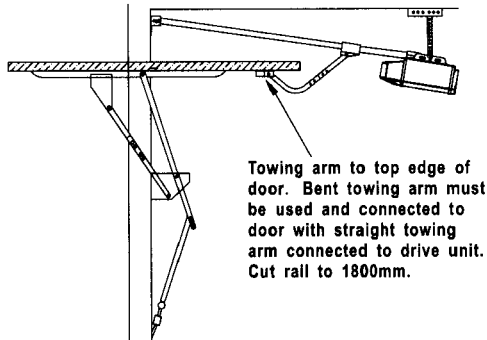
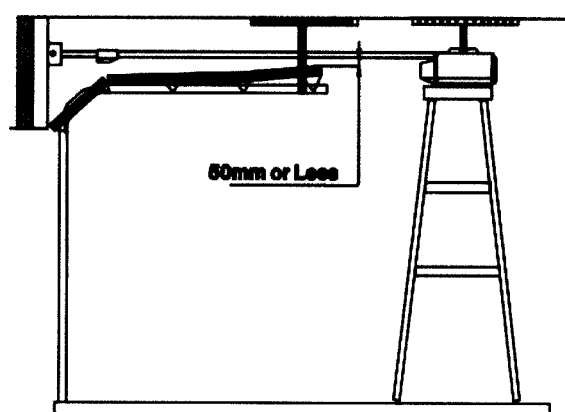

Fig 1B
Fig 7
- Raise the Power Head off the floor and rest it on a support high enough that the Drive Rail Assembly runs parallel to the ground. (Fig.7 depicts typical sectional type garage door installation for tip up door refer Fig.1B)
- Align the Drive Rail Assembly with the centerline of the garage door and securely fasten the Power Head to a structural member of the ceiling or roof using 2 lengths of vertically hung steel angle – normally 20mm x 20mm x 1mm. (Fig.7)
- Once mounted the Power Head and Drive Rail Assembly should sit parallel to the floor along both planes. (For Sectional and Track-Type Tilt Doors only. For Jamb-Type Tilt Door refer Fig 1B)
- a. With the garage door in the fully open position, the underside of the Drive Rail Assembly should be no more than 50mm above the highest arcing point of the garage door for its entire length. (Fig.7)